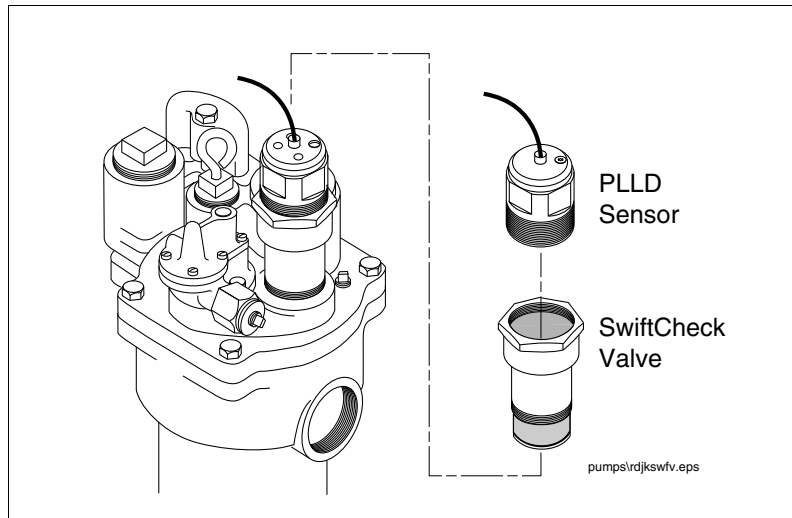
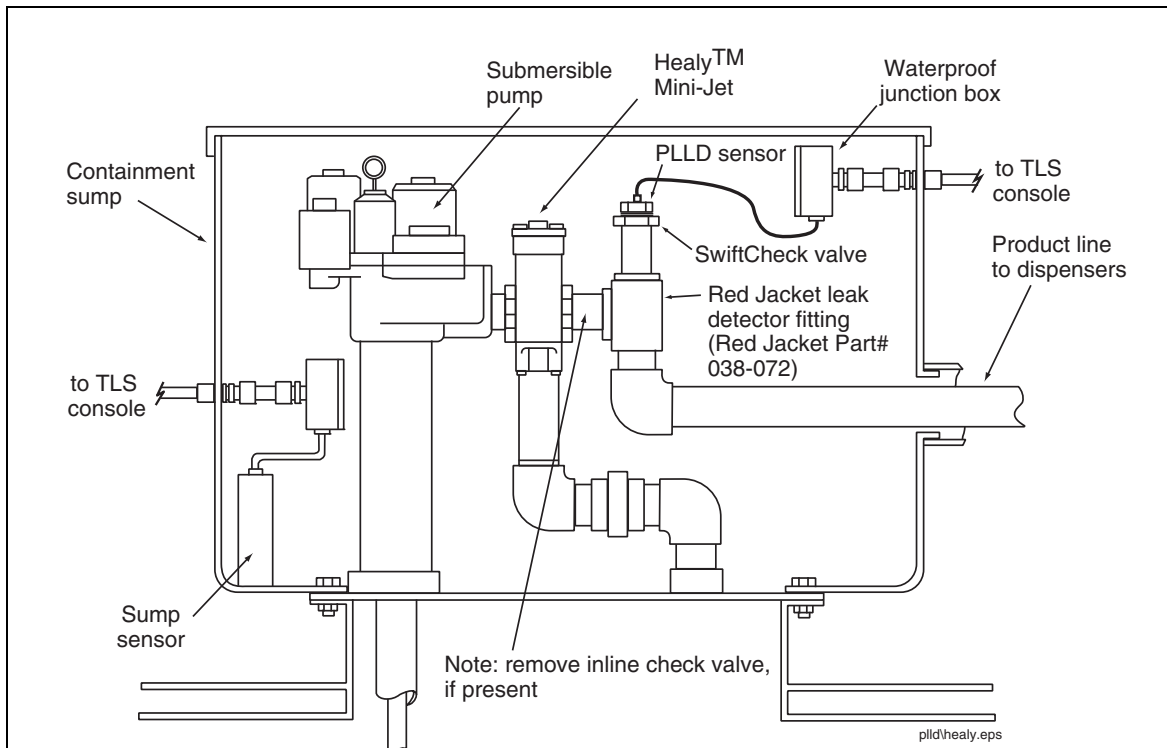

Figure 4. PLLD Transducer Installation
Figure 5. PLLD Install W/Healy Mini-Jet System (Required Dielectric Union And Shutoff Valve Not Shown)
5. If there is no Stage II vapor recovery, install the SwiftCheck valve [Figure 4] in the mechanical LLD pump port. Thread the PLLD transducer into the SwiftCheck Valve.
6. If there is a Stage II vapor recovery device installed in the pressurized piping you must install the SwiftCheck valve into a Red Jacket leak detector fitting (P/N 038-072) as shown in Figure 5 instead of in the pump's leak detector port. Because the PLLD transducer must be installed downstream from these devices, a monitored containment sump is required.
7. Thread the PLLD transducer into the SwiftCheck valve (ref. Figure 4 or Figure 5 as appropriate).
3. Thread the PLLD transducer into the LLD port (Figure 5).
Lubricate the external o-ring on the SwiftCheck valve using mineral oil or other suitable lubricant and thread the valve into the Red Jacket leak detector fitting (P/N 038-072) as shown in Figure 5 on page 11 instead of in the pump's leak detector port. Next thread the PLLD transducer into the SwiftCheck valve.
3. If the pump does have a Stage II vapor recovery device installed in the pressurized piping, lubricate the external o-ring on the SwiftCheck valve using mineral oil or other suitable lubricant and thread the valve into the Red Jacket leak detector fitting (P/N 038-072) as shown in Figure 5 on page 11 instead of in the pump's leak detector port. Next thread the PLLD transducer into the SwiftCheck valve.